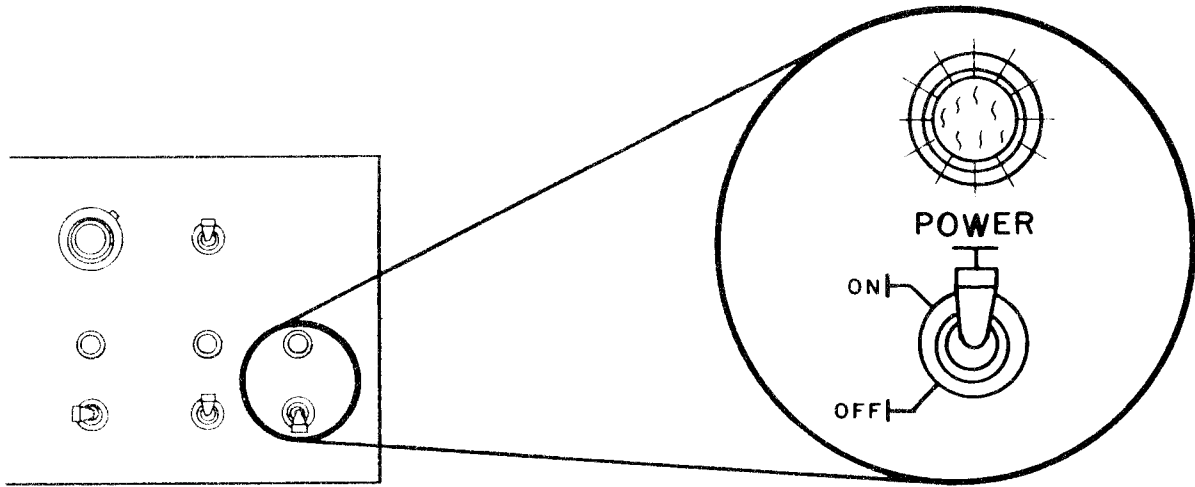

Figure 90. POWER Switch to ON
- j. On the front panel, flip the POWER switch to ON (see Figure 90).